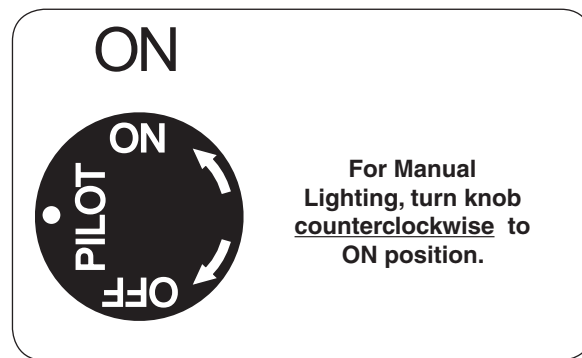

Fig. 21-3 Control knob detail (ON)
2. Turn the gas control knob counterclockwise to **ON** (Fig. 21-3) to ignite the burner. The valve will open and the burner will light.